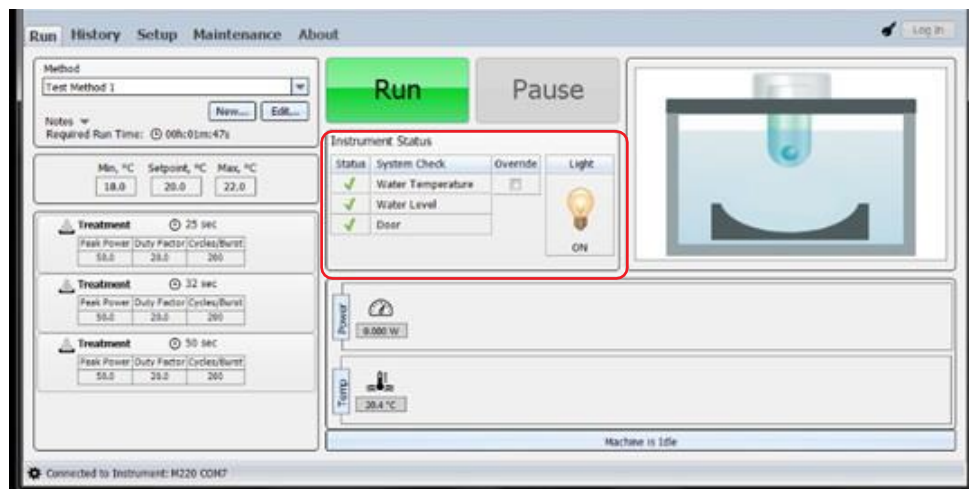

Figure 3.3 Instrument Status Panel and Instrument Light Control
The next three conditions are displayed in the Instrument Status panel (see *Figure 3.3*) of the Run Screen. An acceptable condition is indicated by a green check mark (✓) in the Status box. If a condition is not acceptable, the status will show (X).